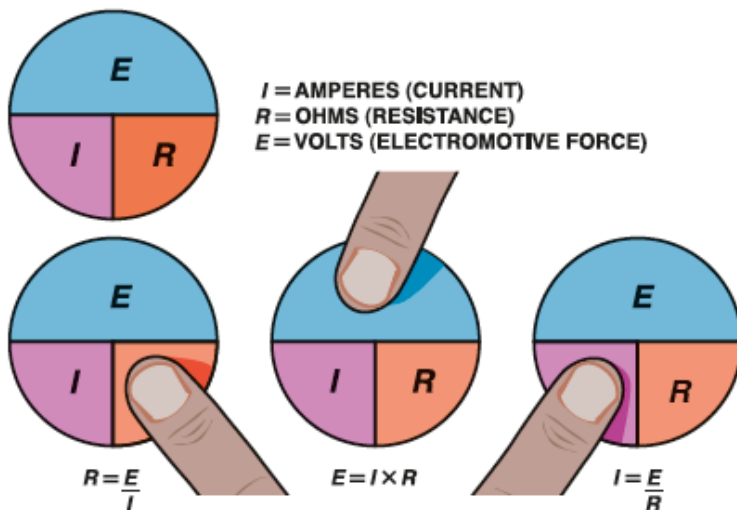

Figure 8. To calculate one unit of electricity when the other two are known, cover the unknown unit to get the formula.
Ohm’s law can also be stated as a simple formula used to calculate one value of an electrical circuit if the other two are known. If, for example, the current (I) is unknown but the voltage (E) and resistance (R) are known, then Ohm’s law can be used to find the answer. Figure 8.